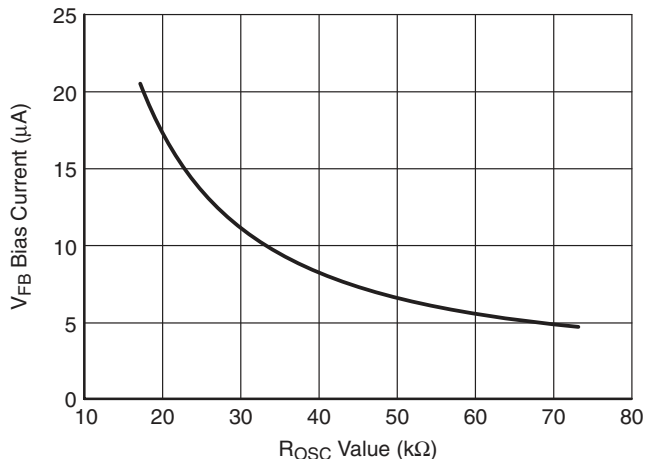

Figure 4. V_{FB} Bias Current vs. R_{OSC} Value
- The V_{FB} Bias Current changes with the value of R_{ROSC} per Figure 4.